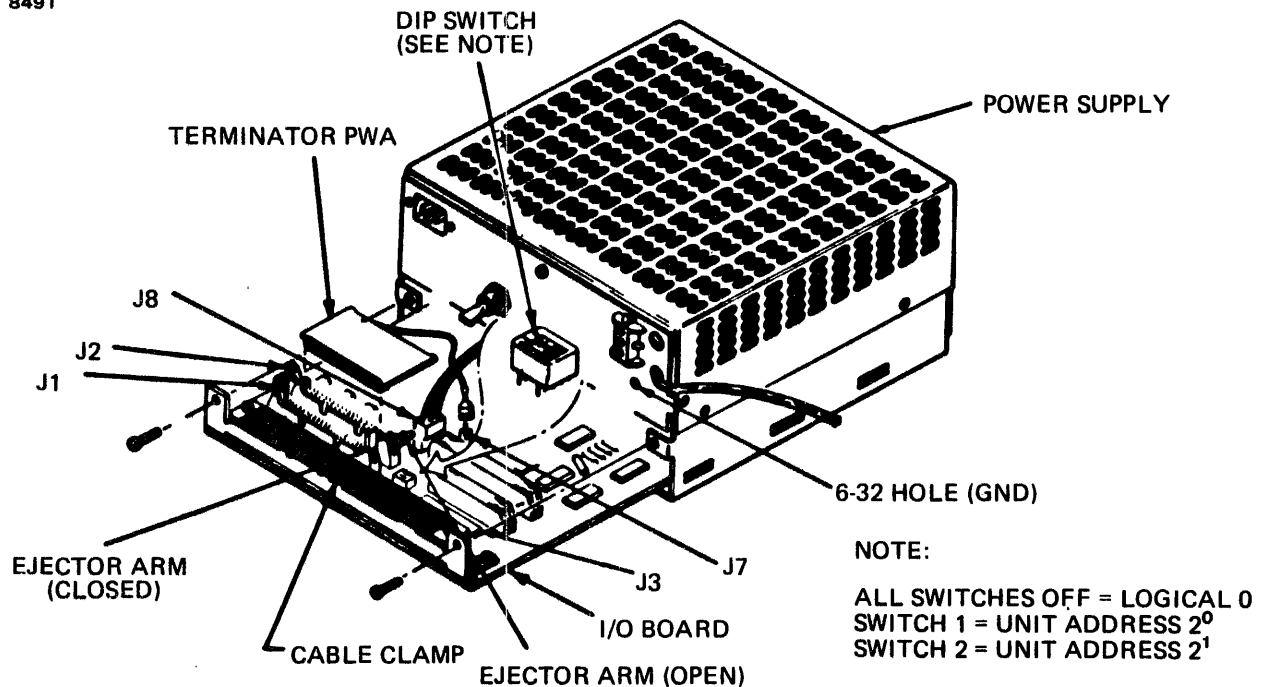

Figure H-13 Power Supply and I/O Board
1. Remove the two screws holding the I/O board in the PIO base pan (see Figure H-13).
The PIO is provided with a dip switch module that allows a binary address to be selected to operate in a multiple drive system. The drive can be selected only as units 0 through 3. The dip switch module is located in the I/O board in the PIO (see Figure H-13).
Ensure that the terminator PWA is plugged into the PIO Board (J2) and the connector ejector arms are closed (see Figure H-13).